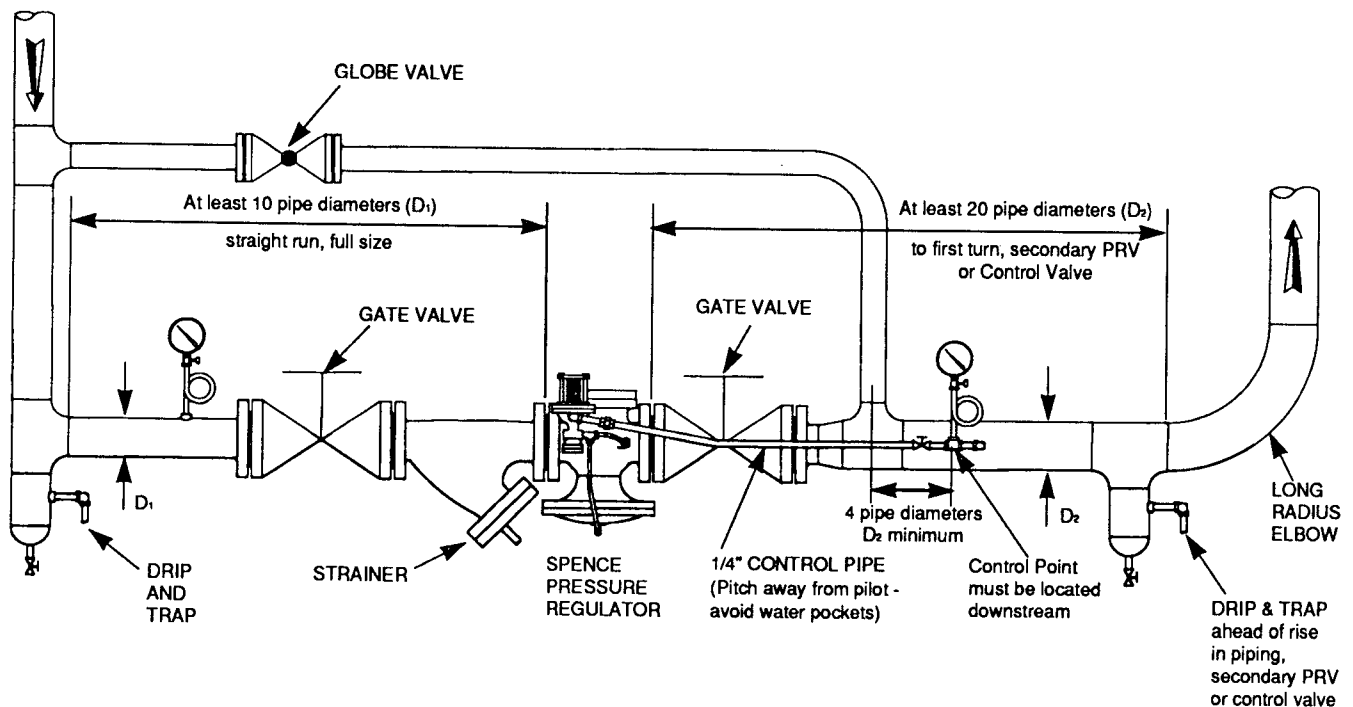

Fig. 2A
1. Locate the valve in a straight run of horizontal pipe. See Fig. 2A.
4. Avoid damaging effects of scale and dirt in pipe lines by using a Strainer as shown in Fig. 2A.
8. Connect the 1/4" Control Pipe from the D Pilot Diaphragm Chamber to the point of pressure control. See Fig. 2A.
5. Steam may wash the obstruction from the seat if the valve is made to open wide. This can be accomplished, even at light loads, if the control point is beyond the Outlet Stop Valve as shown in Fig. 2A. Reassemble Bleedport Bend and place regulator in operation. Then, slowly open and close Outlet Stop Valve.